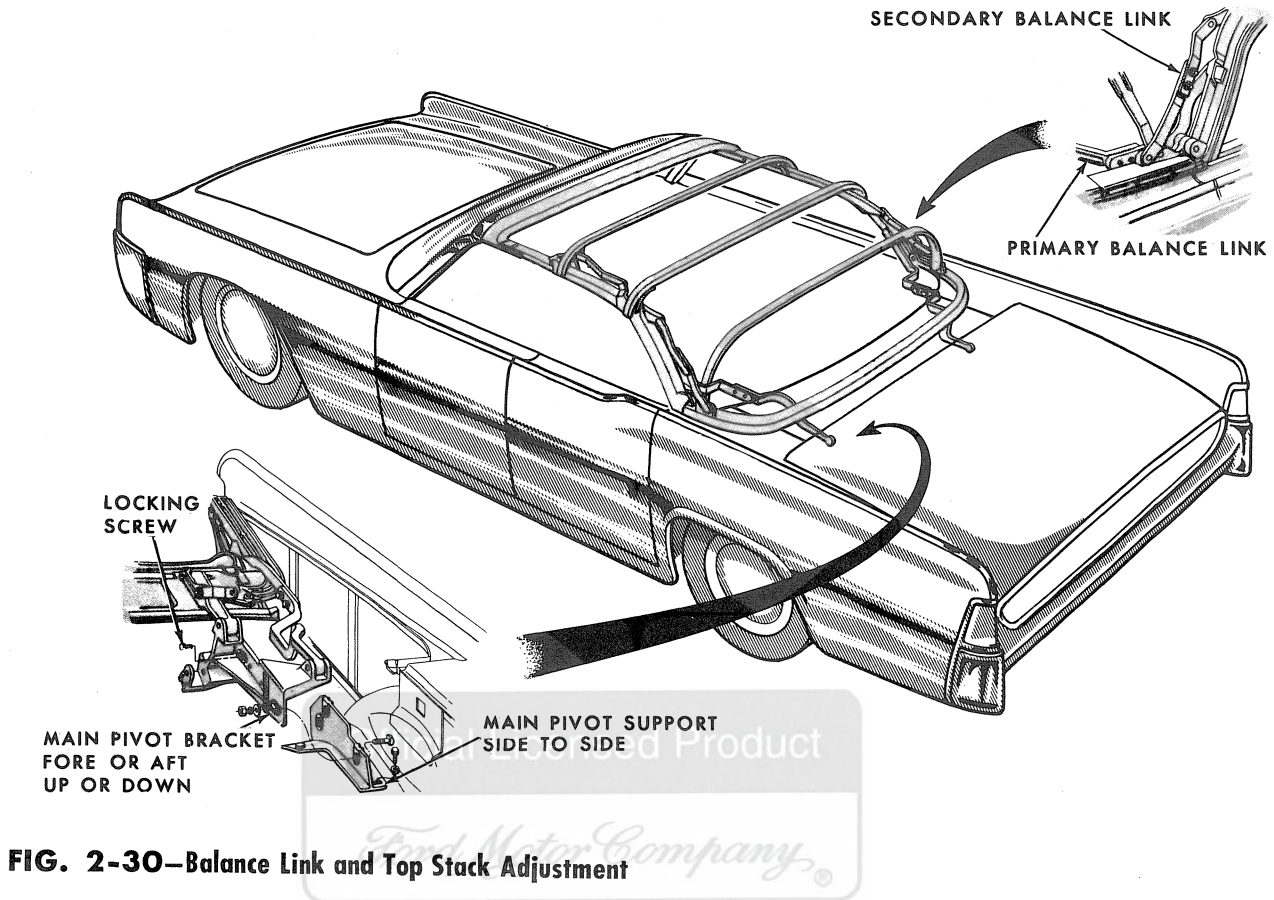

FIG. 2-30—Balance Link and Top Stack Adjustment
1. Loosen the two locking screws and move the link to the proper position; tighten the screws. **It may be necessary to partially retract the top before making the adjustment (Fig. 2-30).**
The secondary balance link controls the sag or crown of the side rail assembly (Fig. 2-30).
The main pivot bracket is adjustable fore or aft and up or down to obtain alignment of the top with the rear edge of the rear door glass (Fig. 2-30).